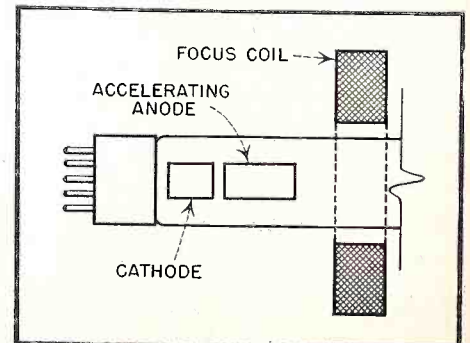

Fig. 4. Position of focus coil on CRT
6. (p 14) In magnetic focusing a focus coil is placed about the neck of the C-R tube at the proper point for operation. (See Fig. 4.) The proper placement point is indicated by: